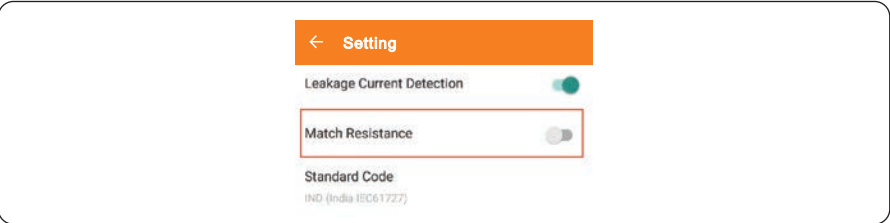

Figure 5.19 Setting Mach Resistances
Step 4 You can set Mach Resistance of the end of multi-RS485 connection chain, as showed In Figure 5.19.